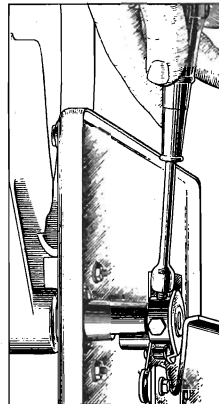

Figure 9—Magazine adjustments
- (b) Improper setting of magazine. The horizontal swing of the magazine should be so adjusted when the mechanism is out of cycle that the outer surface at its nearest point to the nearest side of the turntable spindle is $\frac{5}{32}$ ". This can be done by loosening the two screws as shown in Figure 9, moving the magazine to its correct position and retightening the screws.
- (b) Loosen the two set screws and remove the magazine lever Figure 9.